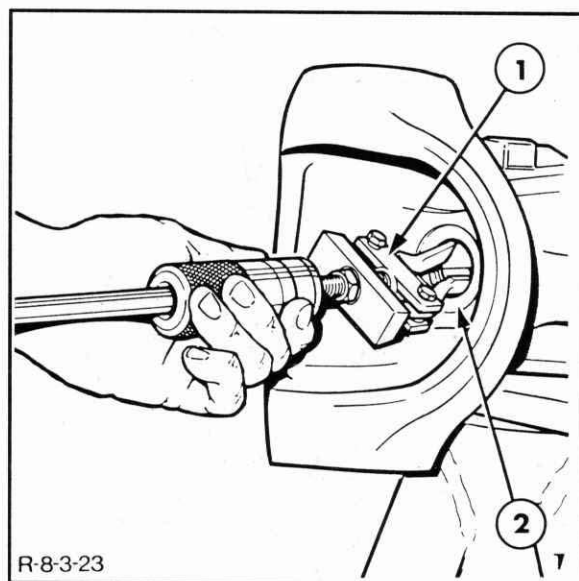
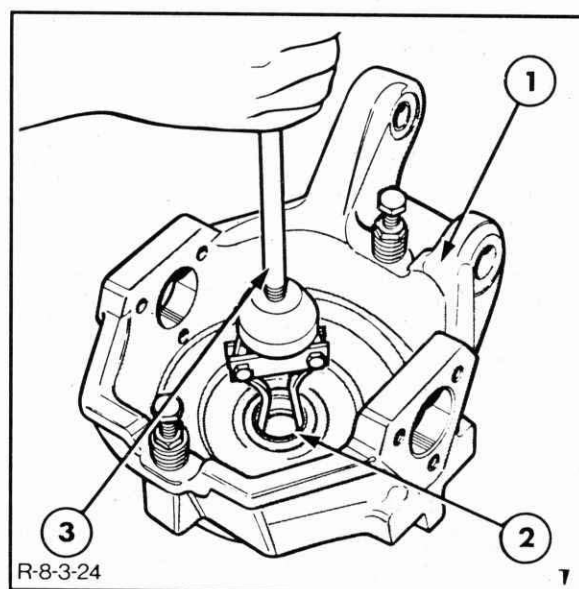

Figure 7-88
Figure 7-89
4. Remove the axle shaft oil seals from the axle center casing, Figure 7-88, and the swivel casing assembly, Figure 7-89.